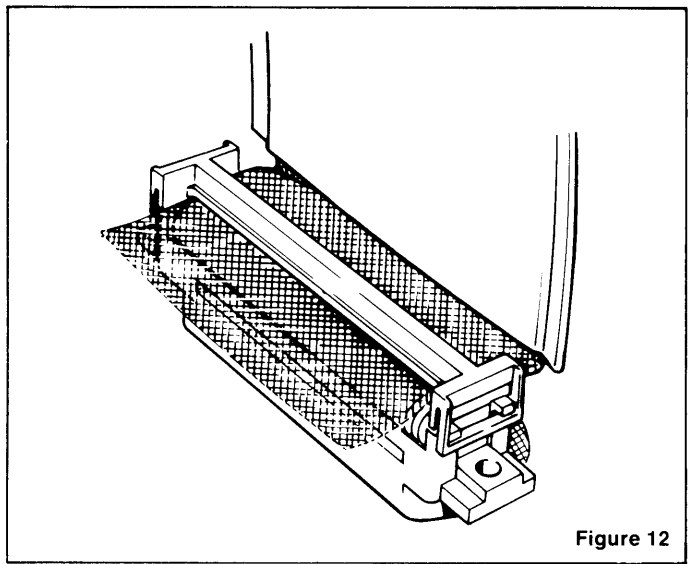

Figure 12
6. Attach a strain relief over the cable and shield and bend back 90°. (Figure 12)